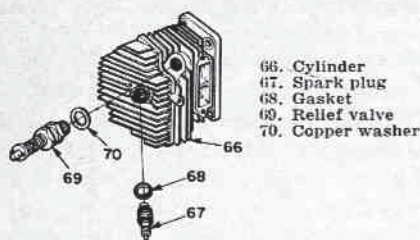

Fig. HL86A—XL-903 and XL-904 models are equipped with a compression relief valve (69).
Fig. HL86—Exploded view of typical engine assembly. Some models are not equipped with automatic chain oiler pump assembly (items 85 through 93). Note that to remove the guide bar studs (83), the stud retainers (84) must be unscrewed from crankcase and tank assembly (74); do not attempt to unscrew the studs. Refer to Fig. HL86A for XL-903 and XL-904 models with compression relief valve. Fig. HL89 shows later type crankcase with removable fuel tank and with sawdust shield used in place of gasket (85).
COMPRESSION RELIEF VALVE. Models XL-903, XL-903E, XL-903EAM and XL-904 are equipped with a compression relief (decompression) valve. The poppet type relief valve is mounted in a port adjacent to exhaust port as shown in Fig. HL86A. The valve is opened as throttle lock plunger is depressed to lock position. If valve fails to close when throttle lock plunger is released, either remove valve and clean using a carbon sol-